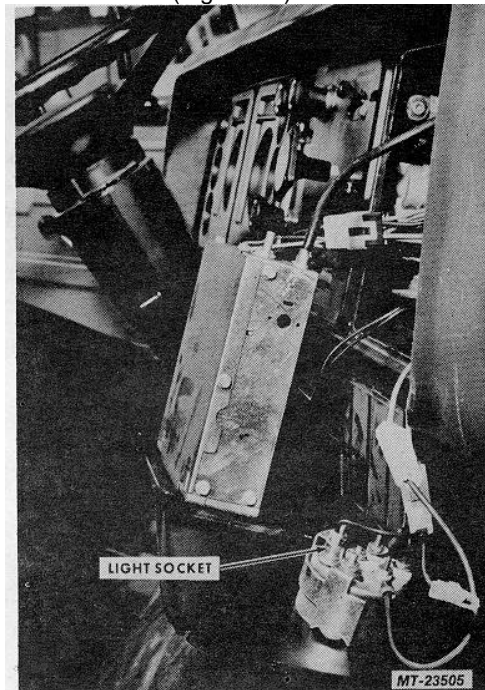

Fig. 21 Auxiliary Gauge Illumination Light (Typical)
2. Tip panel outward to gain access to instrument (Figure 21)